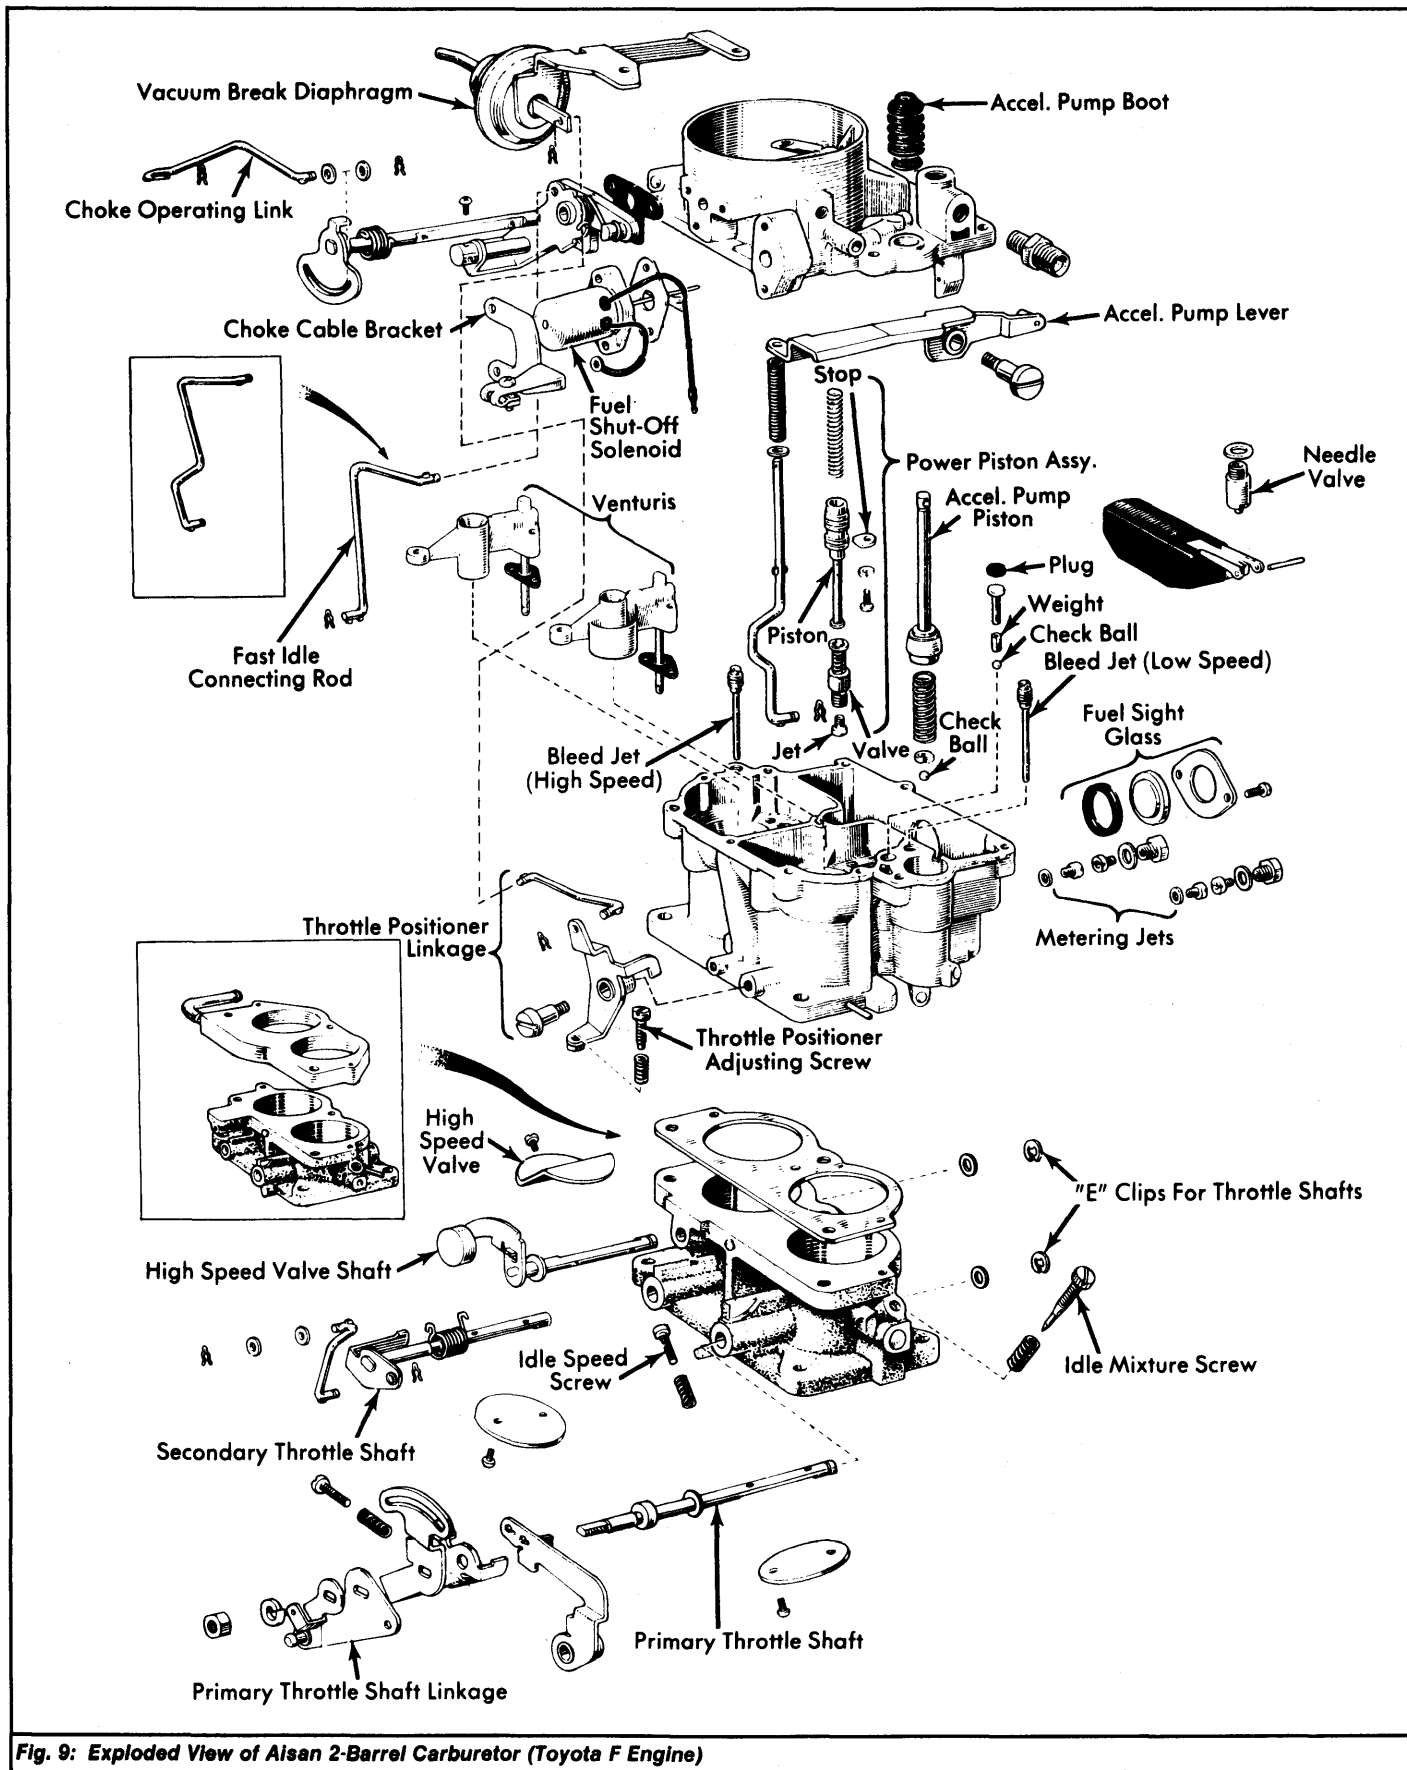

Fig. 9: Exploded View of Aisan 2-Barrel Carburetor (Toyota F Engine)
- 1) Remove pump arm and pump connecting link. Remove choke and fast idle connecting links. See Figs. 9 and 10. Remove throttle positioner assembly. Remove air horn screws and carefully remove air horn assembly.